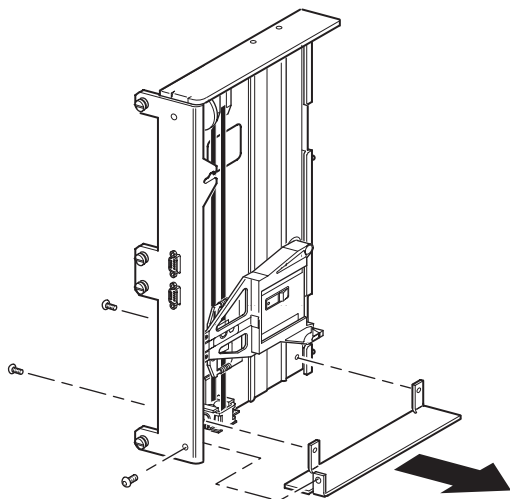

Figure 2-7. Removing the bottom plate from the PTM base unit
1. Remove the bottom plate from the PTM base unit (see Figure 2-7).